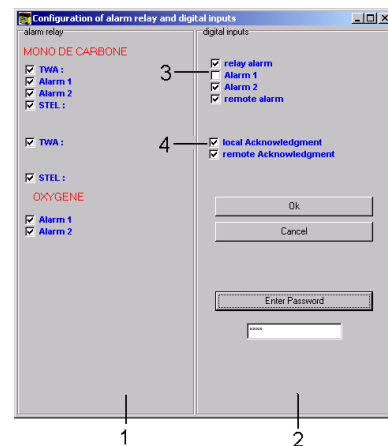

Figure 45: alarm output relay and logic input settings
- Set relay output and the logic input by checking the different boxes (Figure 45).